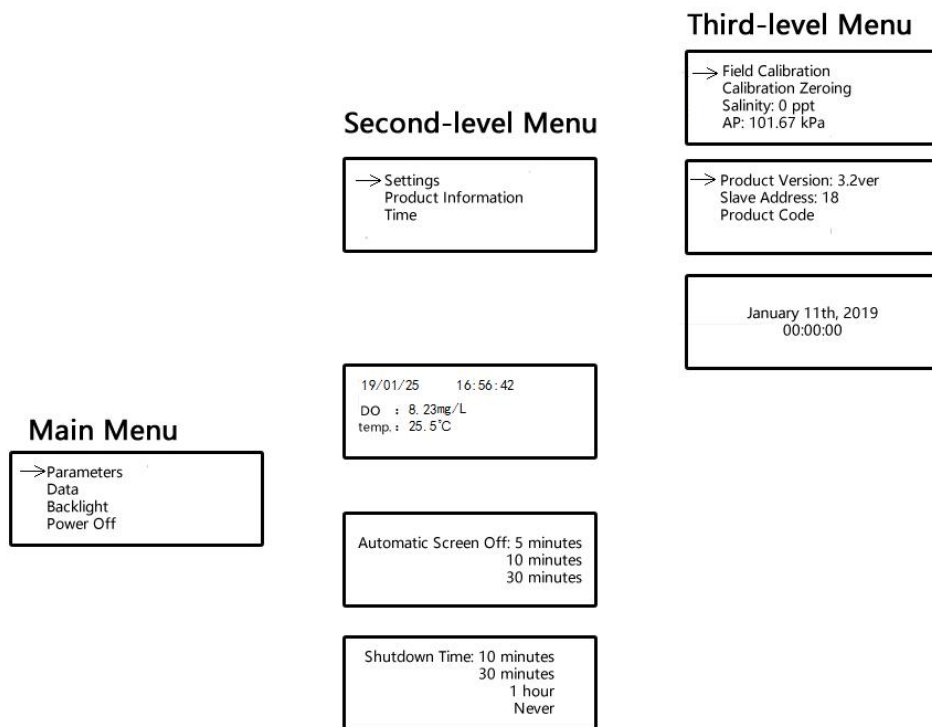

Figure 7
2. On the measurement interface, press and hold the "Menu" button for 2 seconds to enter the main menu (as shown in Figure 7). Then, use the up and down buttons to select the desired function, and press the "Confirm" button to enter the next - level menu. (Press the "Settings" button briefly to return to the previous - level menu.)